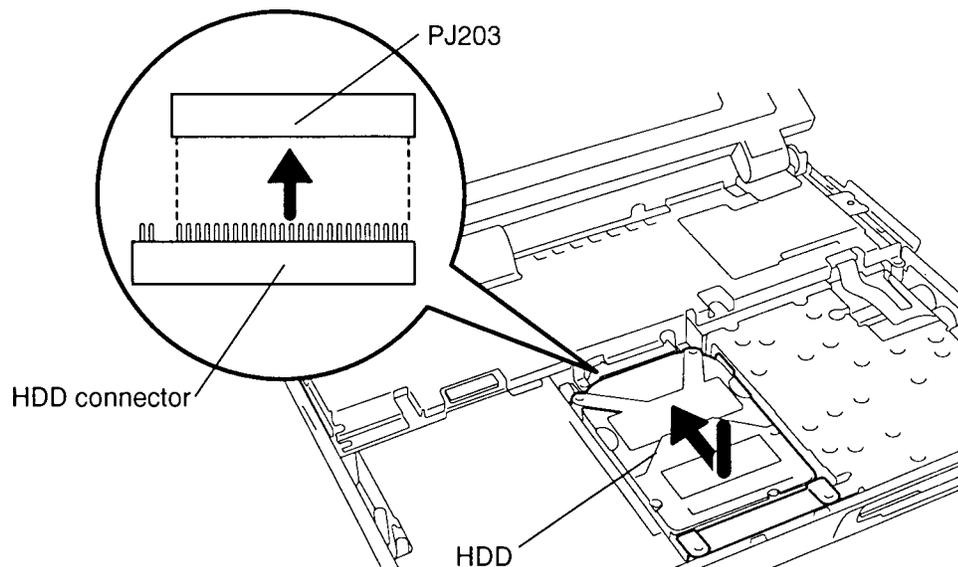

*Figure 4-12 Removing the Bracket from the HDD*
- Remove the **four flat-head M3x4 screws** securing the **bracket** to the HDD and slip off the bracket (Figure 4-12).
1. Secure the **bracket** with the **four flat-head M3x4 screws** (Figure 4-12).